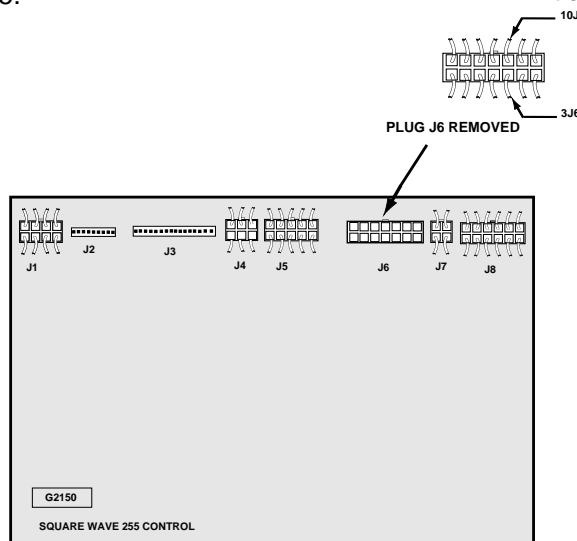

FIGURE F.8 - CONTROL BOARD TEST POINTS.
4. Check for continuity between pins 10J6 and 3J6 at plug J6 on the wiring harness. Refer to Figure F.8. If 8.4 ohms to 6.0 ohms resistance is indicated then arc start trigger circuit is okay. If a high resistance or open is read then proceed to Step 5.